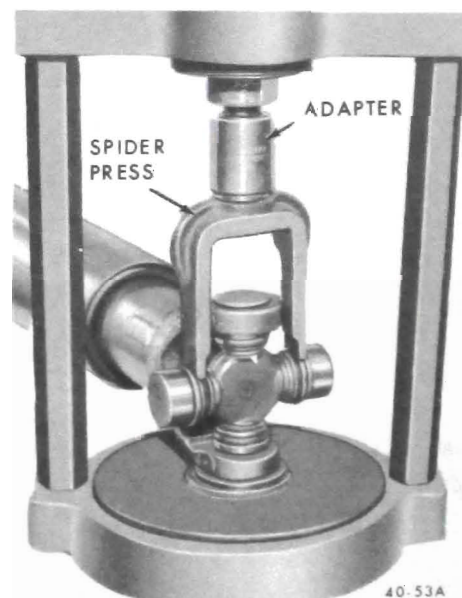

Figure 40-49 - Pressing Out U-Joint Bearing With Guide Installed
4. Position propeller shaft as before and use spider press and power ram hydraulic pump to shear the nylon injection ring and remove the opposite bearing. See Figure 40-49.